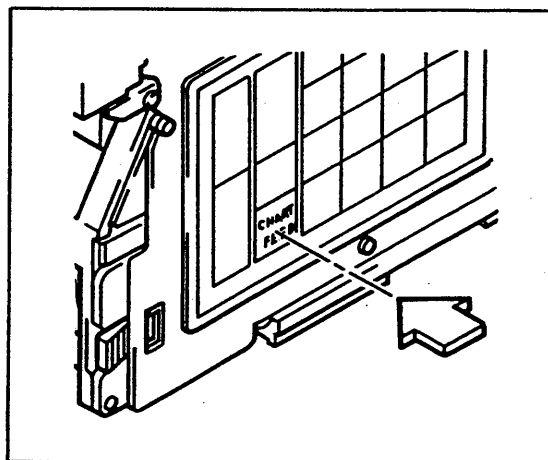

Figure 5-8.
- (10) Press the Chart Feed key, and confirm that the chart is fed continuously\*. (See Figure 5-8.)